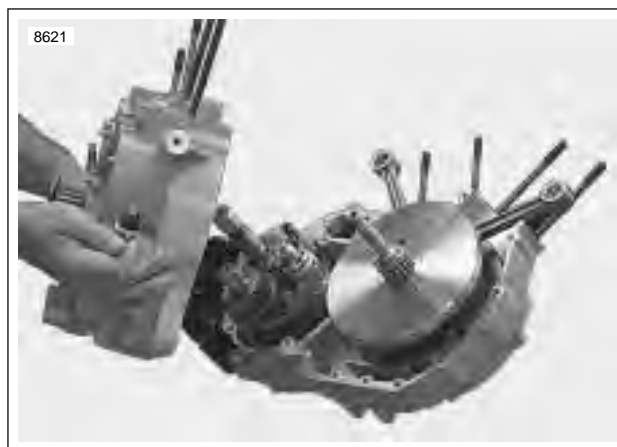

Figure 6-87. Crankcase Halves
4. See Figure 6-87. Assemble crankcase halves together.